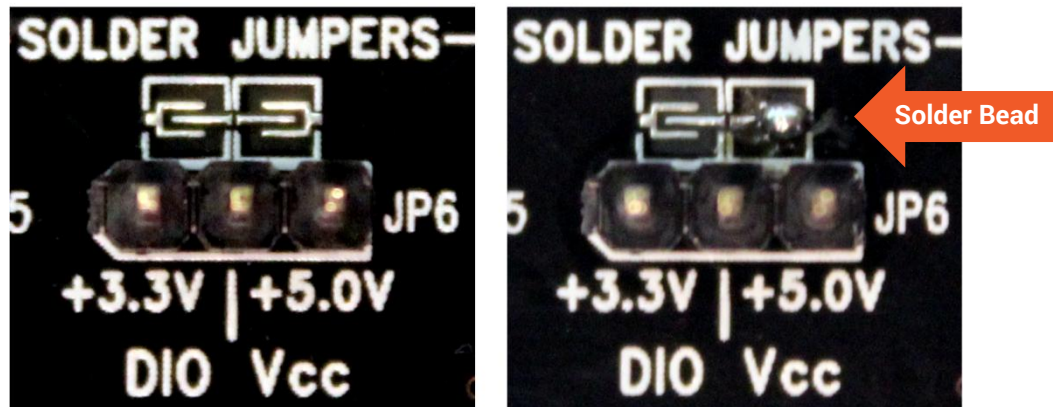

Figure 2-2 Solder Jumpers
- Figure 2-2 Solder Jumpers 7
Next to each 3-pin power rail header is a set of two solder jumpers. These provide a more secure way to select the voltage rail, but require the use of a soldering iron. To select a voltage rail, first remove the jumper shunt. Then, on the solder jumper associated with the desired voltage label, flow a small quantity of solder onto the fork shaped pads so that the connection is made between the prongs. See Figure 2-2 for a before and after example of selecting 5.0V for DIO V_{CC} using the solder jumper.
Take care not to short both solder jumpers. This can create a short between the 5.0V and 3.3V rails and damage the roboRIO. It is also recommended that you remove the 2-pin jumper shunt when using the solder jumpers to prevent the accidental shorting of the rails. See Figure 2-2 for examples of proper solder jumper usage.